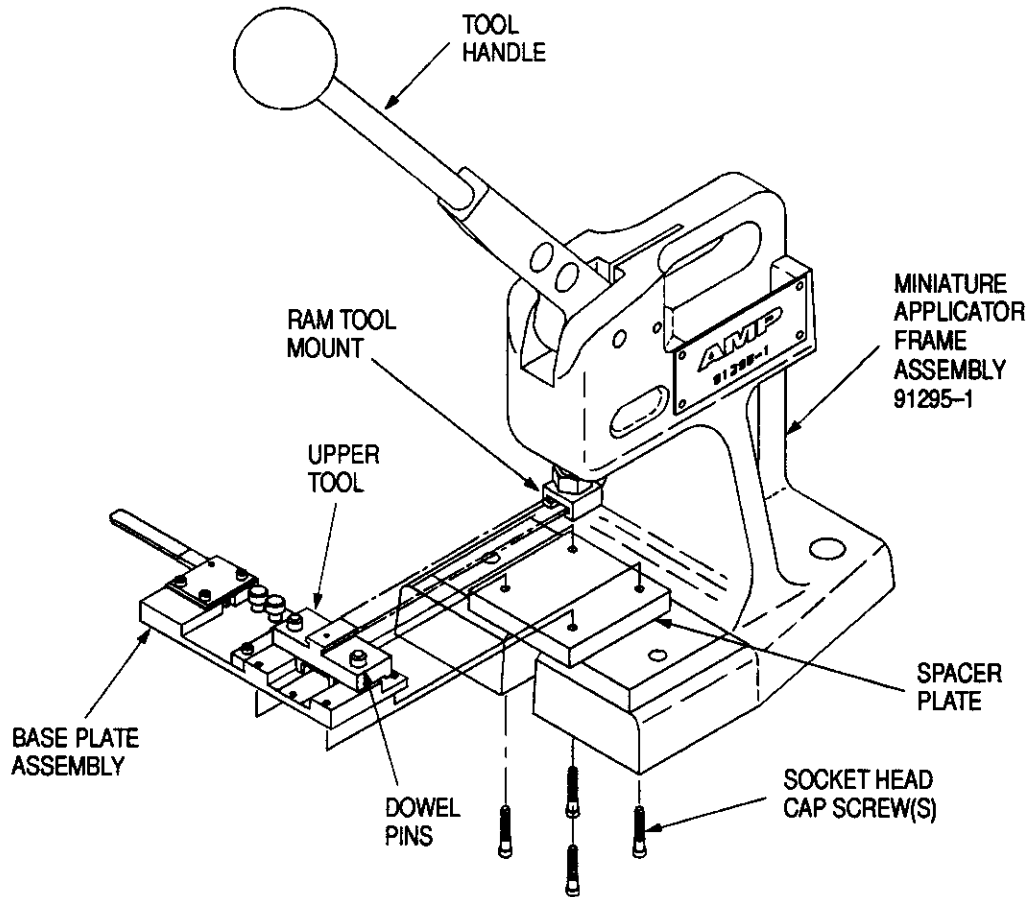

Figure 2
A. Tooling Assembly 543521-1 (Figure 2)